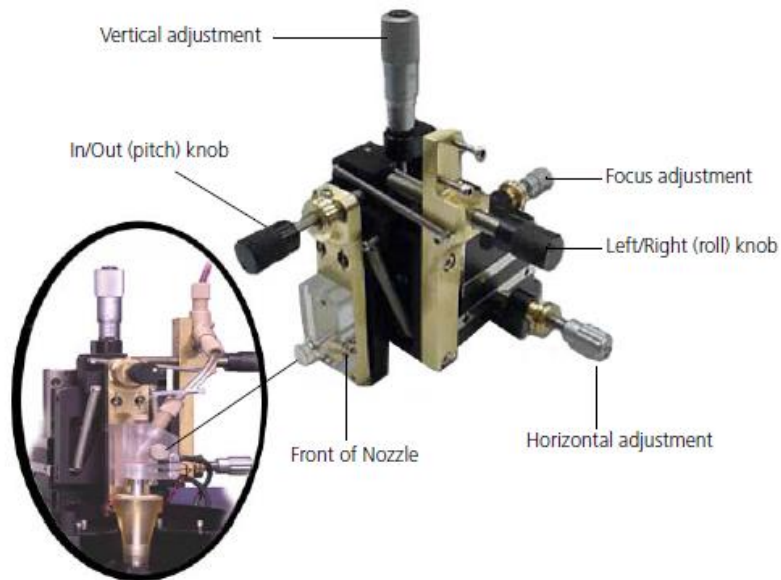

Figure 1: Nozzle Assembly Adjustment Knobs. BD Biosciences. "BD Influx Cell Sorter User's Guide". 2011.
2.3. With the analysis chamber door open, adjust the nozzle height using the silver vertical adjustment knob on top of the flow cell chamber (see Figure 1) so that the shadow of the nozzle is just out of view on the top display on the Sortview window.
- 2.4. Turn on the sort streams by clicking "Test Streams" in the Sort Settings window. Looking at the bottom display on the Sortview window, adjust the black pitch and roll knobs on the flow cell chamber (see Figure 1) until the sort stream is as bright as possible and centered in the waste drain. Click "Test Streams" again to turn off the side streams.
- 2.5. Adjust the silver horizontal adjustment knob on the right side of the flow cell chamber (see Figure 1) so that the stream is centered on the pinholes (top display).
- 2.6. Ensure that the stream is in focus by adjusting the silver focus adjustment knob on the back of the flow cell chamber (see Figure 1).